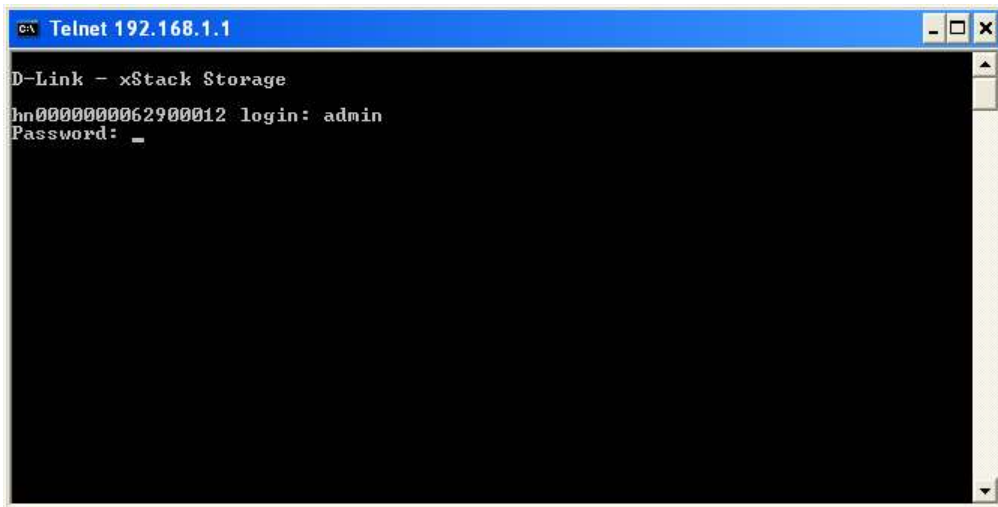

Figure C-2. Password Prompt
2. Telnet to the xStack Storage Array management port. The example Figure C-2 uses a Microsoft Windows Telnet application. This screen was accessed by clicking the **Start** button and then clicking **Run**, typing **telnet 192.168.1.1** in the Run dialog box, and clicking **OK**.